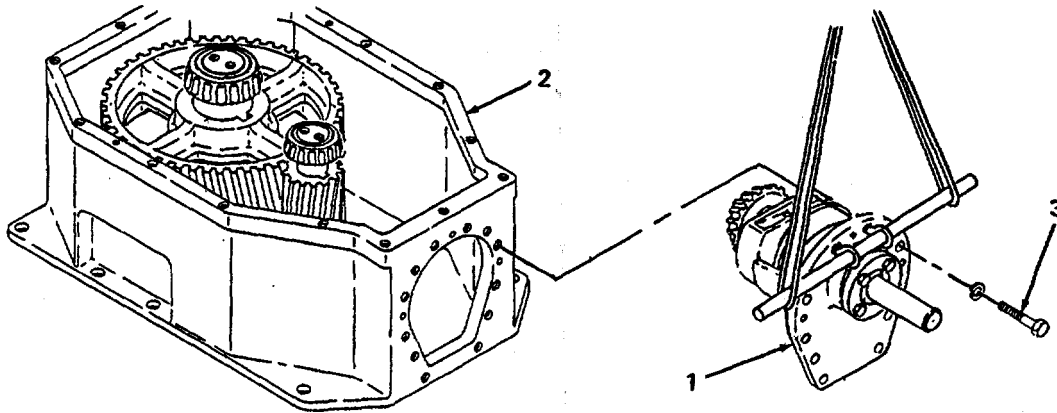

Figure 6-21. High Speed Head Installation.
- (b) Lift high speed head assembly (1, figure 6-21) and carefully insert assembly into housing (2). Install and tighten four evenly spaced mounting screws (3) to hold assembly in place temporarily.